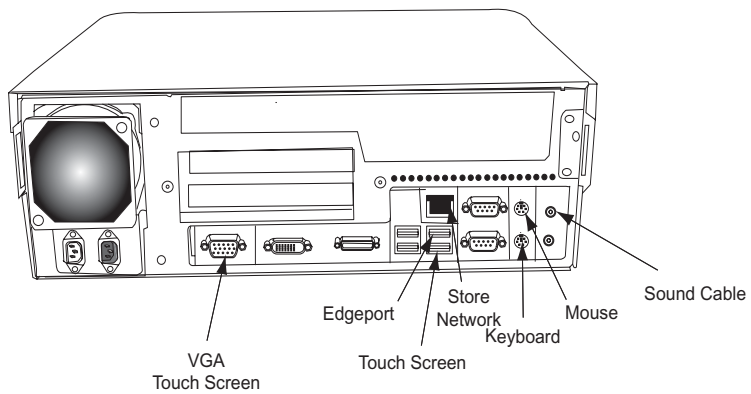

Figure 3.3 Attendant Station Computer and Serial I/F Box connections
5. Plug the POS Keyboard into the Attendant Station Computer. See Figure 3.3.